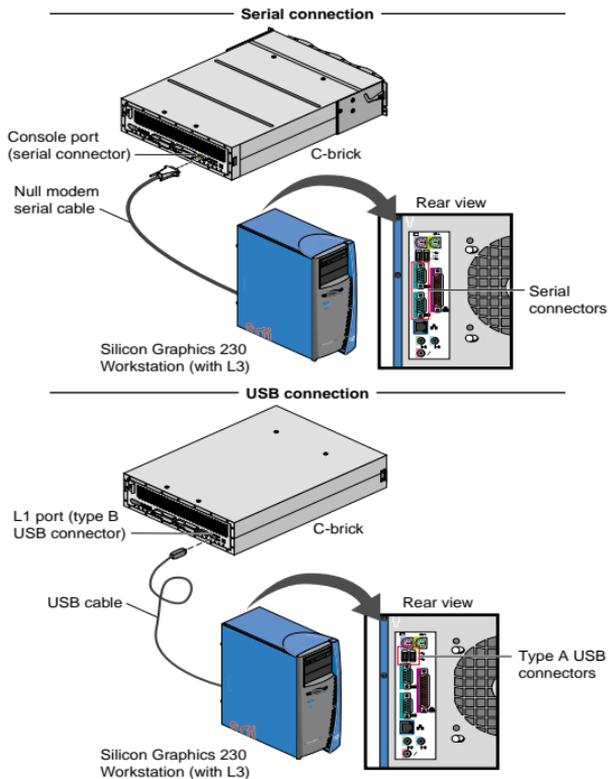

Figure 6
You can connect a Silicon Graphics 230 visual workstation to an SGI Origin 3200 server without an L2 controller hardware system by connecting to the console port (serial port) or the L1 port (USB port) on the SGI Origin 3200 server C-brick. (See Figure 6.)
To connect the Silicon Graphics 230 visual workstation to the console port on the SGI Origin 3200 server C-brick, follow these steps (see Figure 6):
3. Connect a null modem serial cable from the workstation to the console port on the C-brick (see Figure 6).
To connect a Silicon Graphics 230 visual workstation to the L1 port (USB port) on the SGI Origin 3200 server C-brick, follow these steps (see Figure 6):